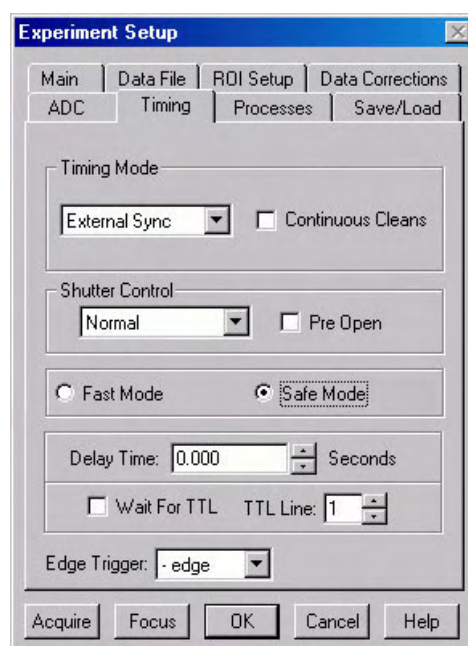

Figure 28. Timing tab page
3. On the **Timing** tab page (Figure 28) set the following parameters.